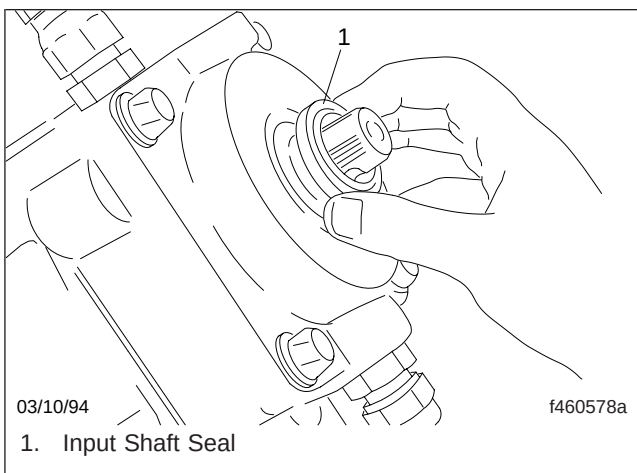

Fig. 5, Input Shaft Seal Removal
11. Remove the shop towel, pinch bolt, and input yoke. Remove the input shaft seal. See Fig. 5.